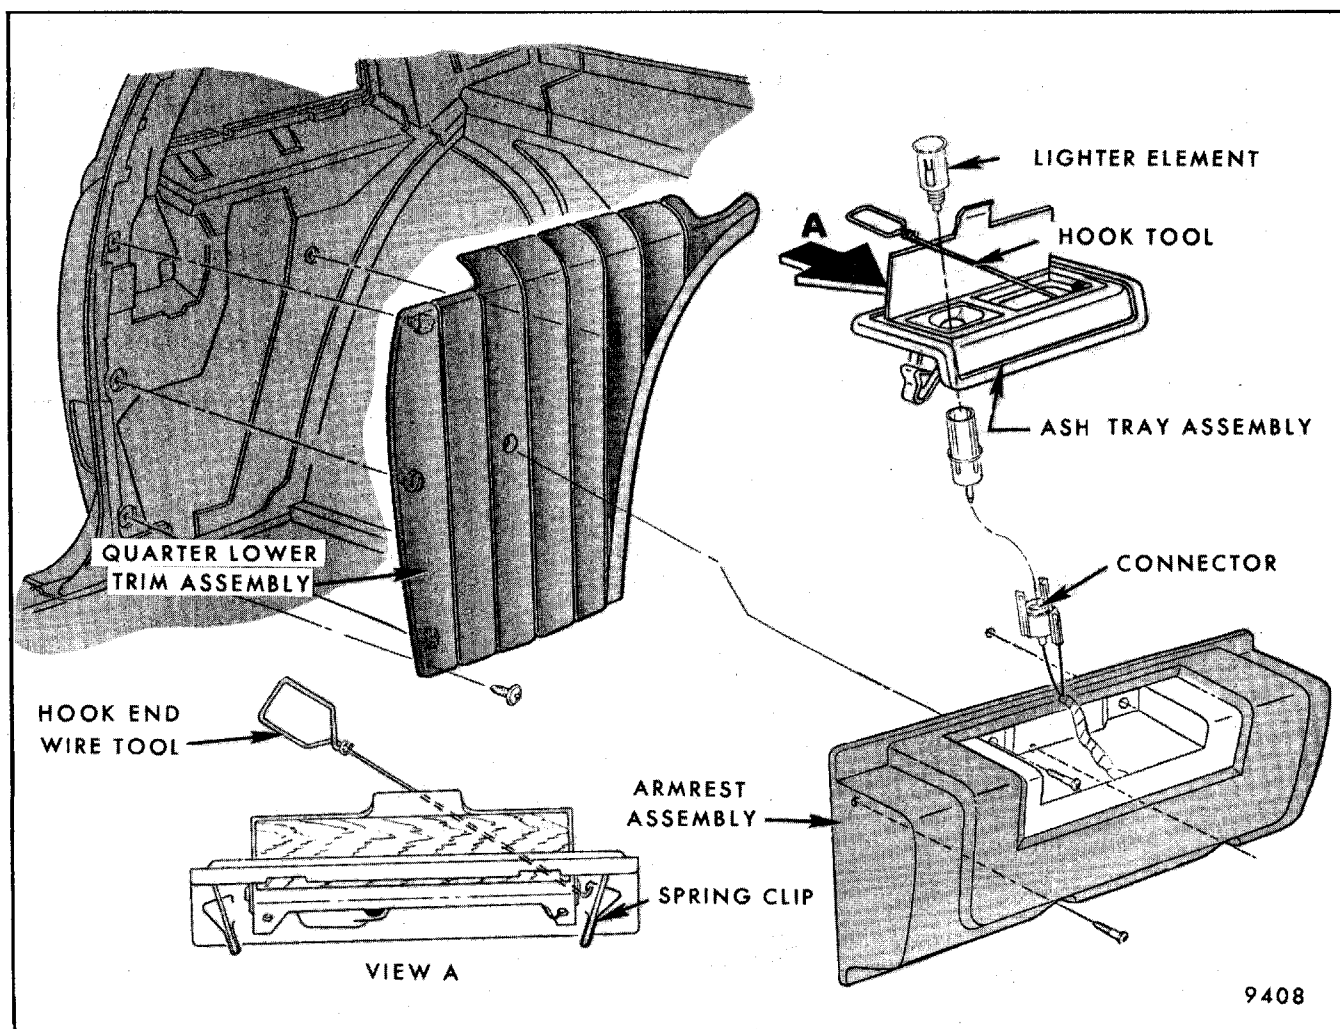

Fig. 6-3 - Quarter Armrest Attachment - "C" and 4BZ37 Styles
- b. With hook of tool, grasp top of rear spring clip as shown in View A of Figure 6-3 and pull forward until ash tray assembly is disengaged from armrest.
- c. Disconnect cigar lighter electrical connector (Fig. 6-3).